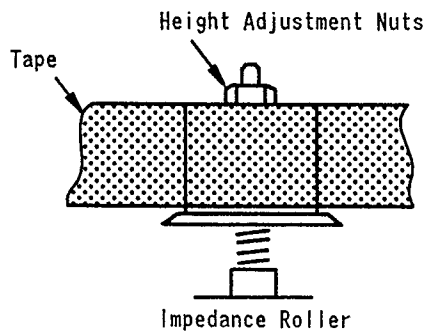

Fig. 5-4.
- If any curling or creasing is noted, adjust tape guide roller and impedance roller first. In this case, adjust the impedance roller in both PLAY and REV modes so that tape runs as shown in Fig. 5-4.